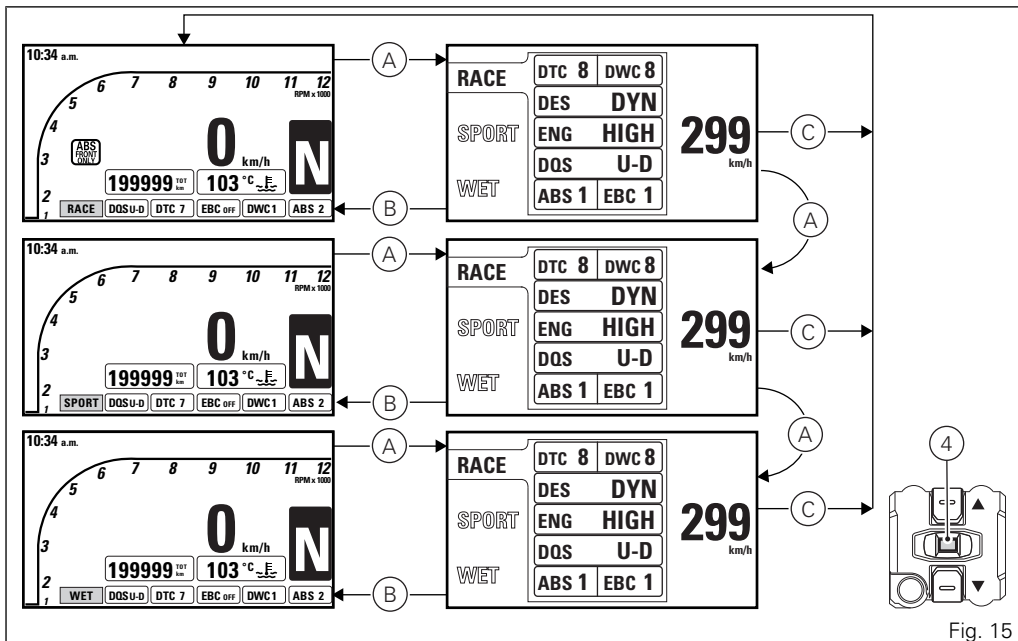

Fig. 15
Displayed information includes the values stored for each single Riding Mode. The stored settings may be the factory ones (Ducati default settings) or the ones customised by the owner. Any time CONFIRM MENU button (4) is pressed, the selected riding mode is highlighted together with the associated parameters (A, Fig. 15).
button (4) for 2 seconds: the new riding mode selection is stored and the Standard Screen (B, Fig. 15) is displayed.
Once the desired riding mode is highlighted, if the CONFIRM MENU button (4) is not pressed within 10 seconds, the new riding mode selection is not stored and the Standard Screen (C, Fig. 15) is displayed.